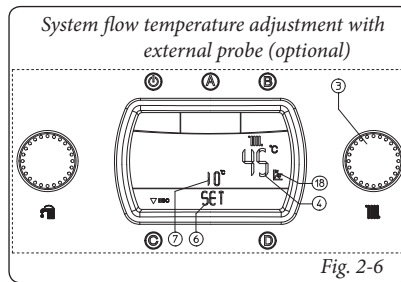

Fig. 2-6
• **Functioning with external probe (Fig. 2-6) optional.** In the case of a system with optional external probe, the boiler flow temperature for room central heating is managed by the external probe depending on the external temperature measured (Par. 1.5 and par. 3.8 under “P66”). It is possible to modify the flow temperature from -15°C to +15°C with respect to the adjustment curve (fig. 1-8 Offset value). This correction, which can be activated using selector switch (3) is kept active for any external temperature measured. The modification of the offset temperature is displayed using the indicator (7). The indicator (4) shows the current delivery temperature and after a few seconds from the modification it is updated with the new correction. The “SET” indication appears on the display (Fig. 2-6). By turning the selector switch (3) in a clockwise direction the temperature increases and in an anti-clockwise direction it decreases.